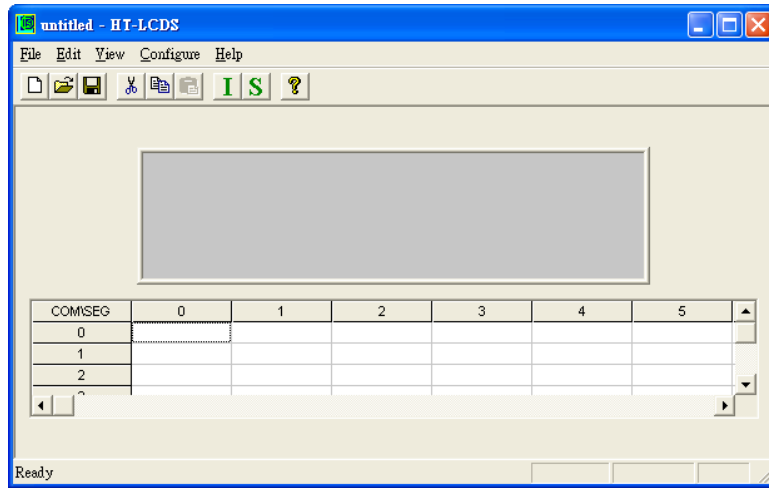
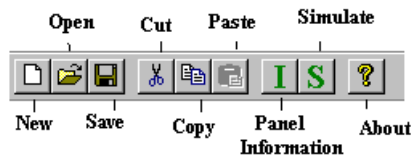
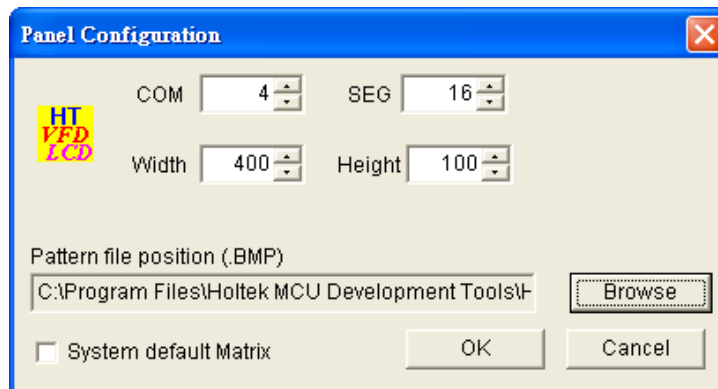
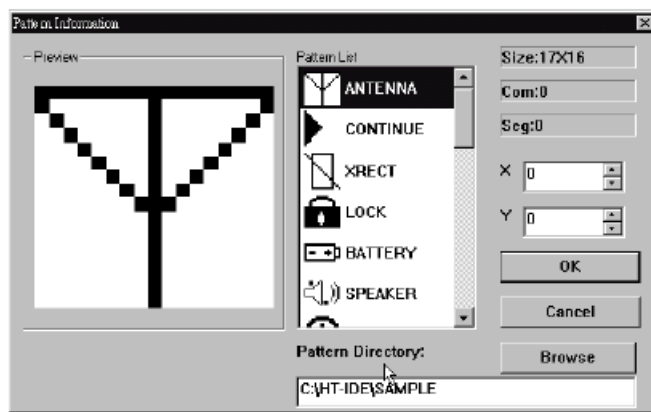

Fig 12-2
Fig 12-3
Fig 12-4
Fig 12-6
When selected from within the Tools menu, the LCD simulator as shown in Fig 12-2 is displayed if the corresponding panel configuration file of the current project exists. The file name of each bitmap pattern is shown at the specified COM/SEG position of the table. At the same time, these patterns are shown on the above panel screen. If the corresponding panel configuration file does not exist within the project directory, both the panel screen and the COM/SEG table will not be displayed. Fig 12-3 shows the HTLCDS menu bar information.
To setup the panel configurations by selecting the HT-LCDS File menu, New command. The Panel Configuration dialog box (Fig 12-4) will be displayed. Setup the correct LCD driver data, COM/SEG number, Width, Height and Directory of the pattern, then press the [OK] button. After setting up the panel configuration, the system returns to Fig 12-2 for pattern selection.
- The default number of the LCD driver for this microcontroller is displayed when Fig12-4 is displayed. To ensure that these numbers are the same as the actual setting number of the LCD driver for the micro controller.
- To create a new panel configuration file using the HT-LCDS File menu New command. After having set the panel configuration, Fig 12-2 is displayed. The user then has to select the patterns from the Pattern Information dialog box (Fig 12-6) and set the COM/SEG positions. The section, Add a new pattern, describes the procedure in detail.
- To open an existing panel configuration file using the HT-LCDS File menu Open command. The patterns are displayed as shown on the panel screen in Fig 12-2 and the pattern file names are displayed as shown in the Fig12-2 COM/SEG table position. Users can add/delete/change the pattern information, including the pattern file and pattern positions.
- Move the cursor to a COM/SEG position on the grid as shown in Fig 12-2 and double click the mouse. The Pattern Information dialog box, as shown in Fig 12-6, is
- Press the [OK] button and return to Fig 12-2, then click the File menu, Save command or click the Save button on the toolbar. The panel file has now been created or modified.
- As shown in Fig 12-2, select the COM/SEG position of the pattern to be deleted and press the [Delete] key or click the Cut button on the toolbar.
- Alternatively, as shown in Fig 12-2, select the COM/SEG position of the selected pattern and double click the mouse. The Pattern Information dialog box, as shown in Fig 12-6, is displayed. Select a pattern from the Pattern List box and press the [OK] button.
- As shown in Fig 12-2, use the Select-Drag-Drop method to move the pattern directly onto the panel screen.
- Alternatively, as shown in Fig 12-2, double click the COM/SEG position of the selected pattern. The Pattern Information dialog box, in Fig 12-6, is displayed. Set the X, Y value of the new position and press the [OK] button.
When the above operations have been completed and the system has returned to that shown in Fig 12-2, click the HT-LCDS File menu, Save command or click the Save button on the toolbar. The panel file has now been created or modified.